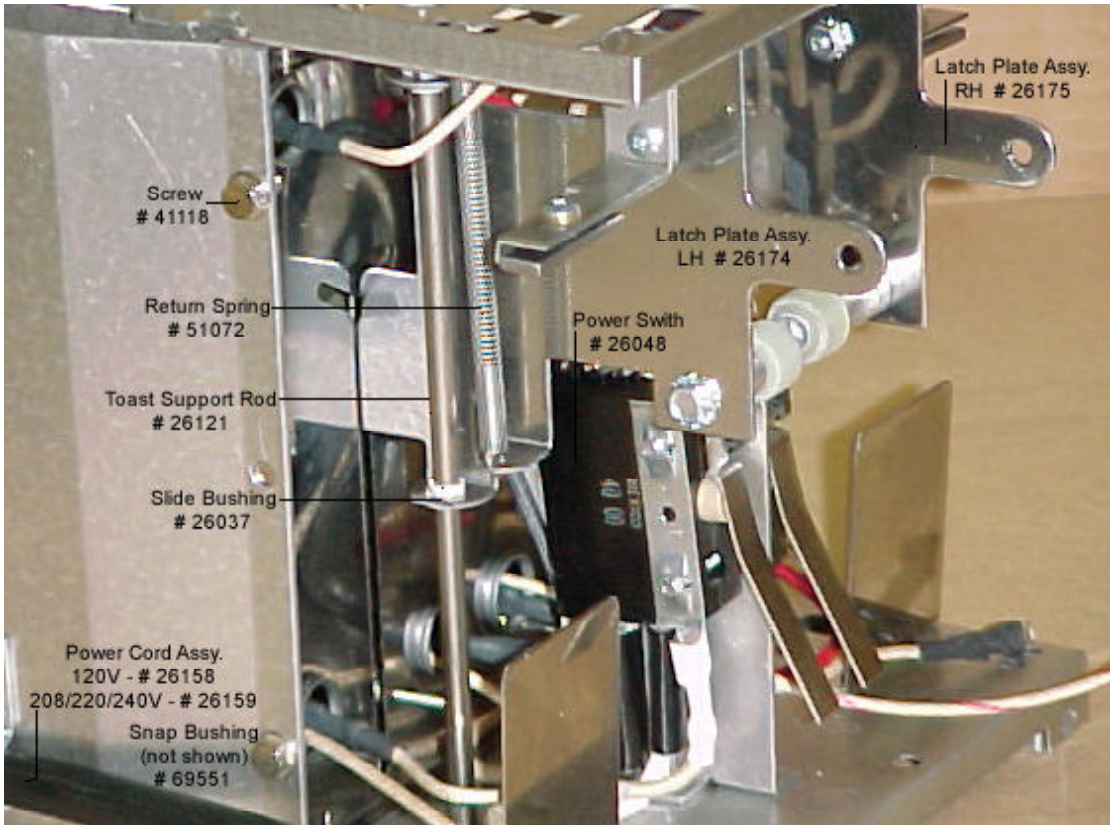

Figure 5
10. Note: If thermal barriers are present on unit, remove the 4 screws securing barrier to end panel. Do not remove barriers. (Figure 5)